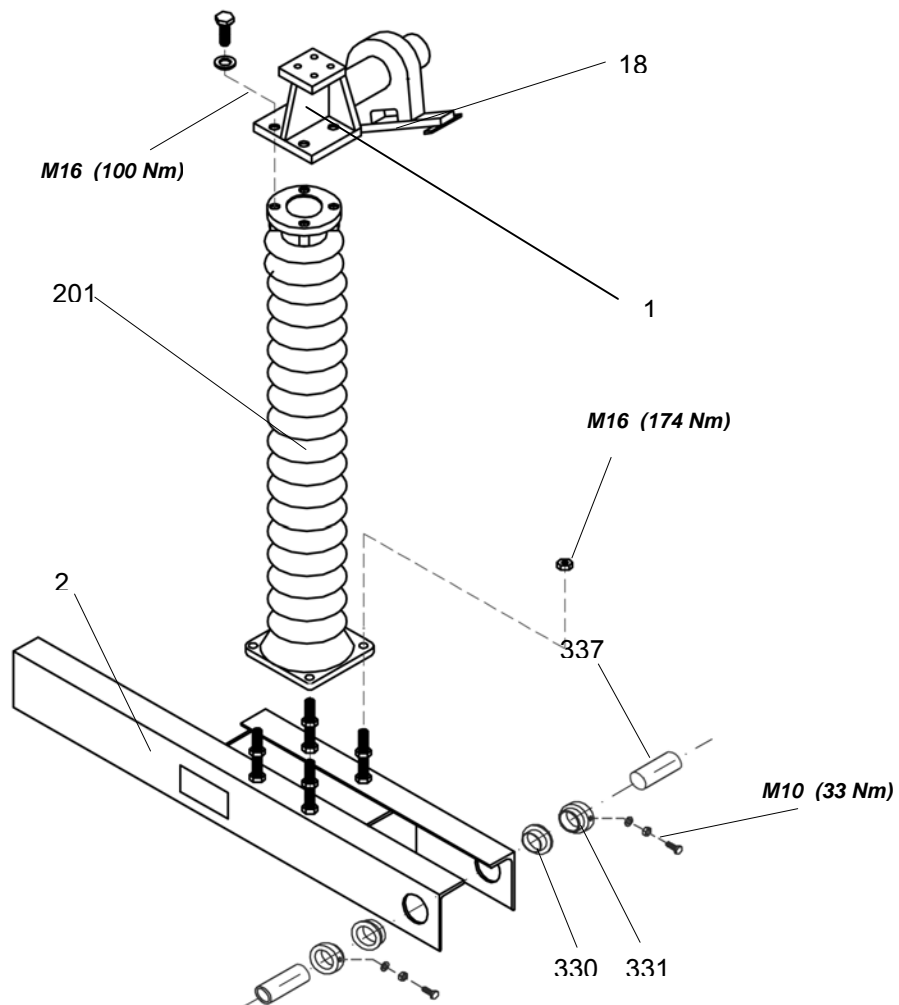

Figure 5: Mounting of post insulator and contact support (insulators with pitch diameter \varnothing 200; 225 mm)
2. Using lifting tackle, place earthing switch base (2) on the supporting structure
3. Mount support insulators (201) on the base frame (2) [Fig. 5]
5. Mount the contact support (1) on the upper flange of insulator (201) and earthing switch contact (18) [Fig. 5 and 6]
6. Grease thrust bearing (330), inside, and collared bush (331), outside, with Mobilgrase28 and mount with collared bush (331), making sure that the thrust bearings are at the specified side [Fig. 5]
7. Mount earthing-switch shaft (337)
8. If pole distances $P > 2500\text{ mm}$: Connect split earthing-switch shaft to coupling piece (342)
9. Tighten locking screw in collared bushes (331) and secure with lock nut
20. Wipe contact finger (20) with cloth and grease
21. Mount tubular contact arms (23) on earthing-switch shaft (337)
22. Mount tubular contact arms (23) on earthing-switch shaft (337)
23. Set tubular contact arms (23) manually to the ON position until contact fingers (20) are up against stop (21) [Fig. 5; 20]
24. Align contact finger (20) and earthing contact (18) at right angles to each other and tighten earthing contact (18). *Align it by displacing and turning the contact (18) on support tube (1).*
6. Grease thrust bearing (330), inside, and collared bush (331), outside, with Mobilgrase28 and mount with collared bush (331), making sure that the thrust bearings are at the specified side [Fig. 5 or 6]
7. Mount earthing-switch shafts in individual poles (337)
8. Tighten locking screw in collared bushes (331) and secure with lock nuts
10. Adjust premounted operating lever (76)
11. Mount earthing-switch lever (19) on the earthing-switch shaft
12. Mount operating rod (71) and adjust to the required length
13. With the operating mechanism in the ON position, adjust spacing dimensions for operating lever (76)
14. Tighten operating lever (76) and earthing-switch lever (19)